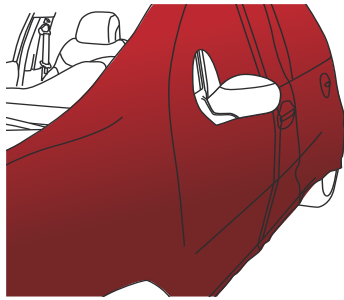

Figure 30
- › The film is now stretched over the entire surface area to be wrapped. Now you can apply the film (FIG. 30) as described in the paragraphs 4.3 to 4.5 according to the type of surface.